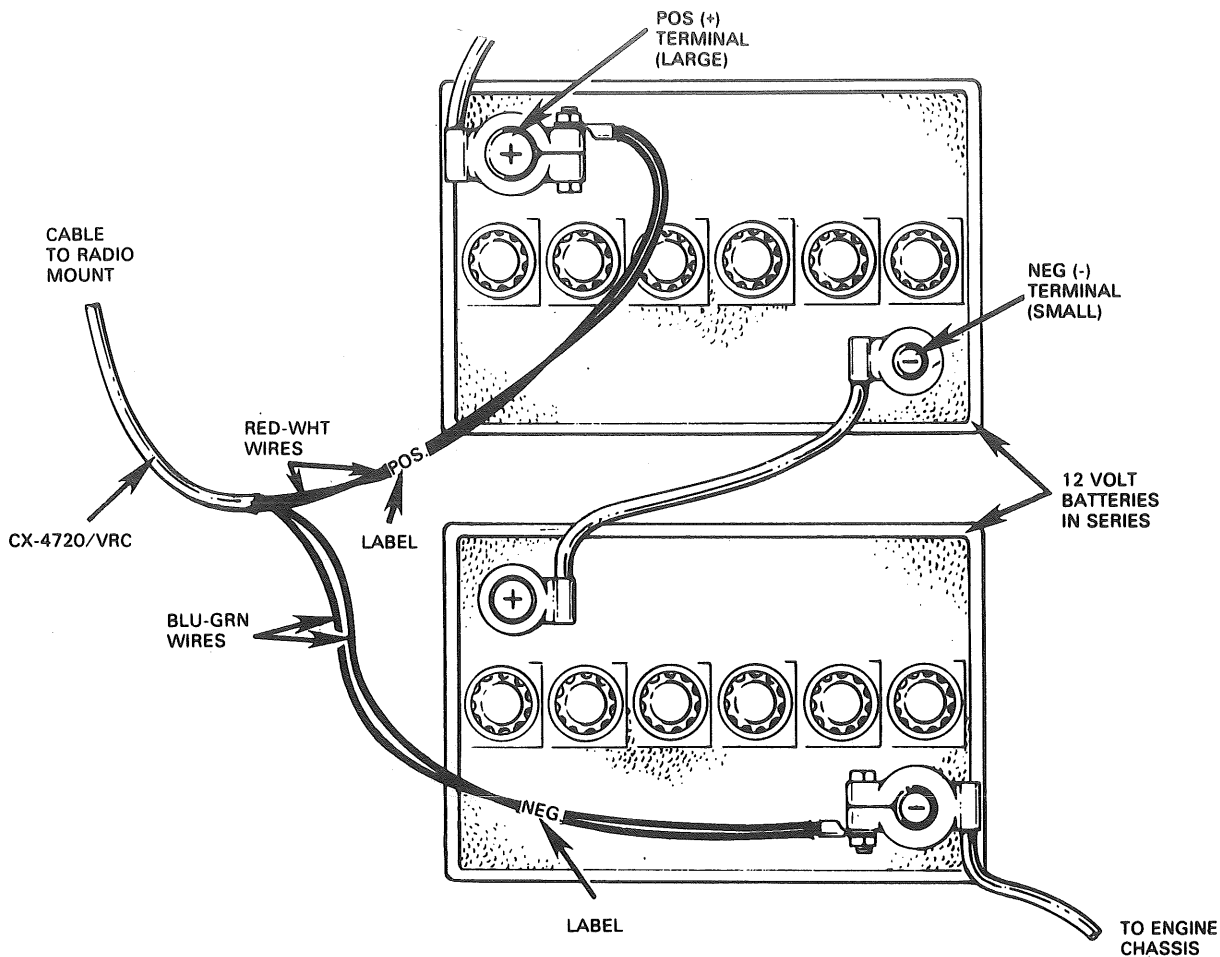

Figure 6. Connection of 28 V dc Power Cable.
6. Connect dc power cable from Generator Set 3 KW, 28 V dc to vehicle battery terminals. (Refer to fig 6.)